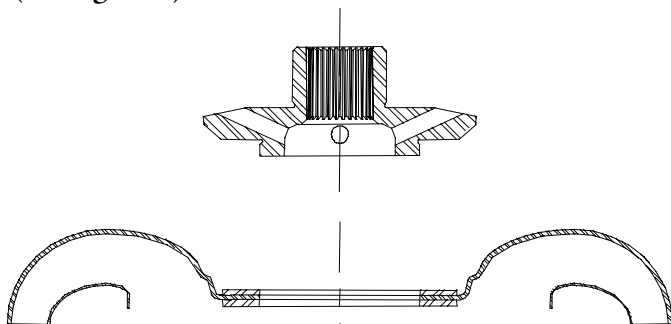

Figure 2
2. Insert the turbine hub into the turbine (see Figure 2).